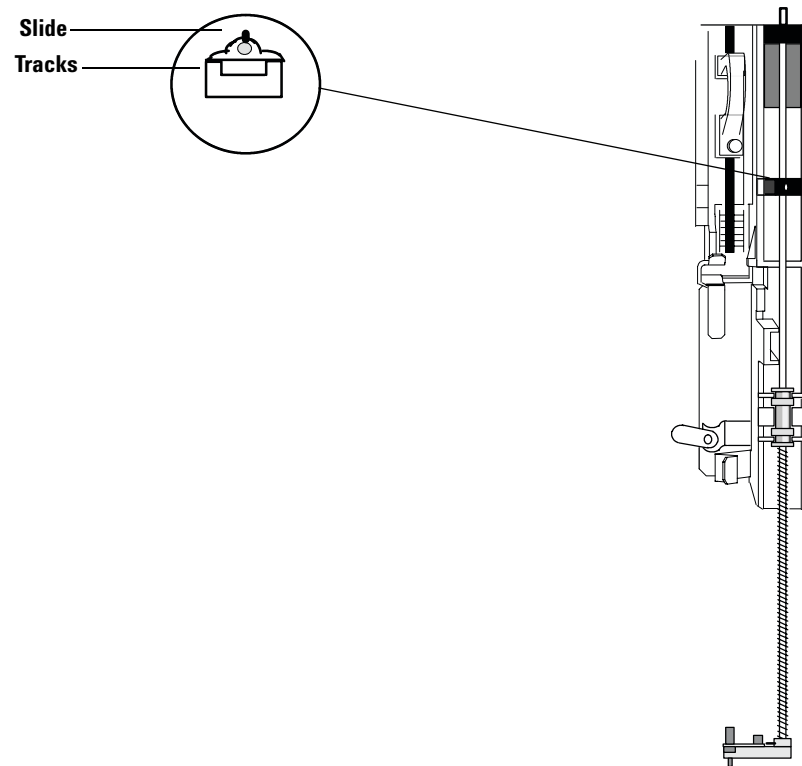

Figure 8 Aligning the slide
- 4 Push the assembly down into place. Make sure the slide lies flat on the tracks of the syringe carriage so that it glides up and down (Figure 8).